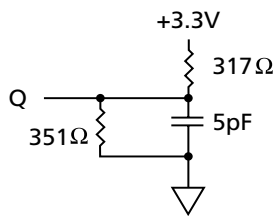
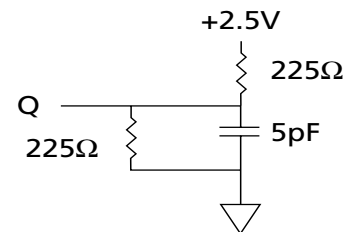

Figure 2
Figure 4
- The load used for V_{OH} , V_{OL} testing is shown in Figure 4 for 2.5V I/O. AC load current is higher than the shown DC values. AC I/O curves are available upon request.
3. This parameter is measured with the output loading shown in Figure 2 for 3.3V I/O and Figure 4 for 2.5V I/O.